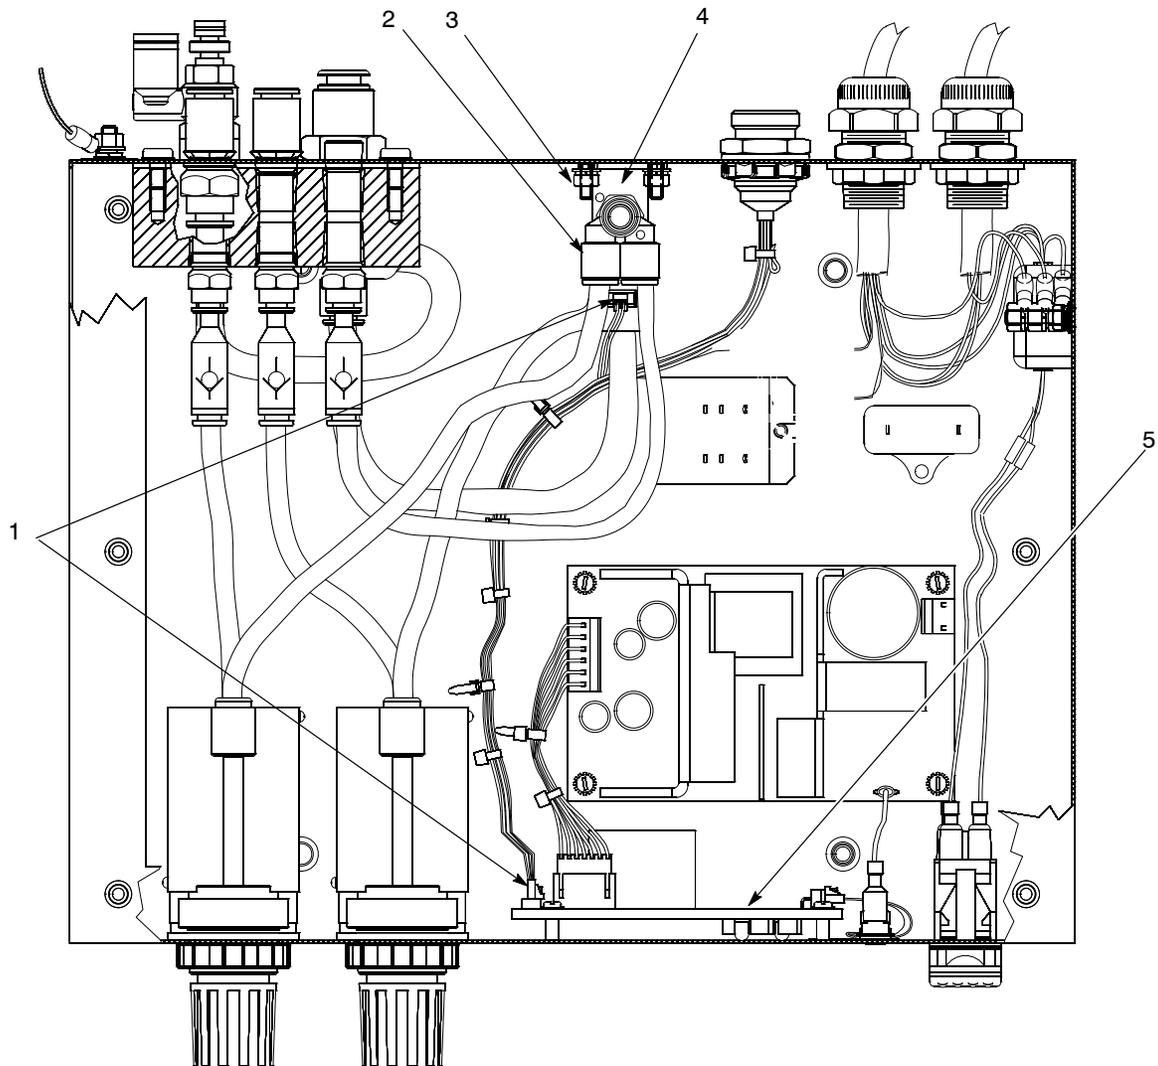

Figure 13 Solenoid Valve Replacement
4. See Figure 13. Disconnect all wiring harness from the printed circuit board (5).
4. See Figure 13. Disconnect the air tubing from the four-way connector (2) and 8-mm elbow on the underside of the solenoid.
5. Disconnect the solenoid wiring harness (1) from the printed circuit board.